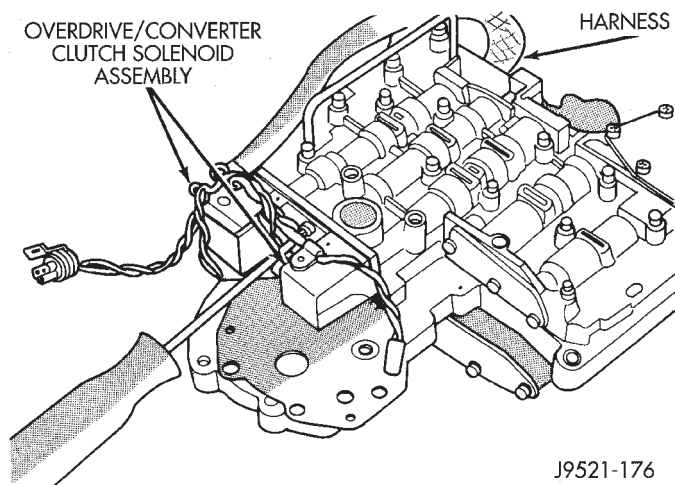

Fig. 50 Solenoid Assembly Screws
- (10) Turn valve body over and remove screws that attach overdrive/converter solenoid assembly to valve body (Fig. 50).